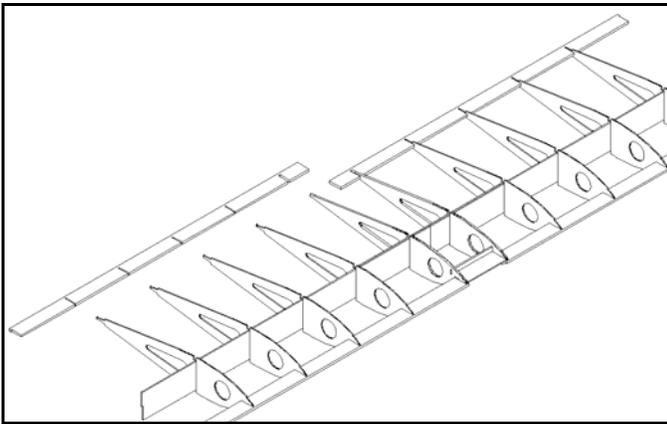

Figure 8
8. Slide the trailing edge crutch pieces onto the ribs (Fig. 8). Note picture does not show tabs on trailing edge.